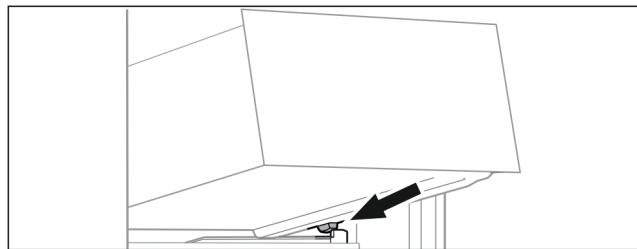

Fig. 60
- Place drawer at an angle behind the stoppers on the moulded rib. (see Fig. 60)